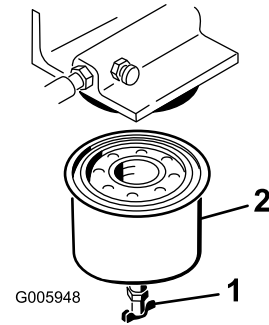

Figure 33
5. Open the drain valve (Figure 33) and drain the fuel from the fuel filter into a suitable container and dispose of it properly.
6. Remove the fuel filter with a filter wrench (Figure 33).